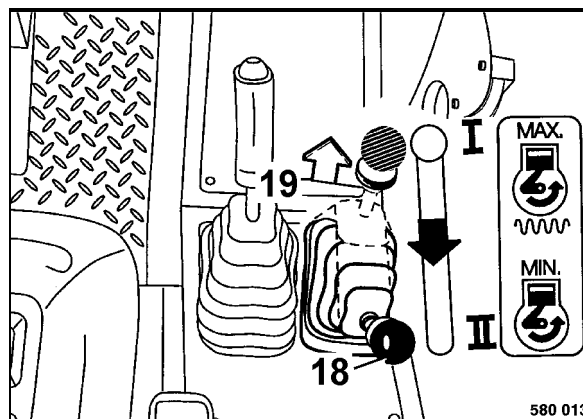

Fig. 48
- Pull the locking plate 19 (Fig. 48) up and set the throttle lever (18) to position "II" (idling speed).